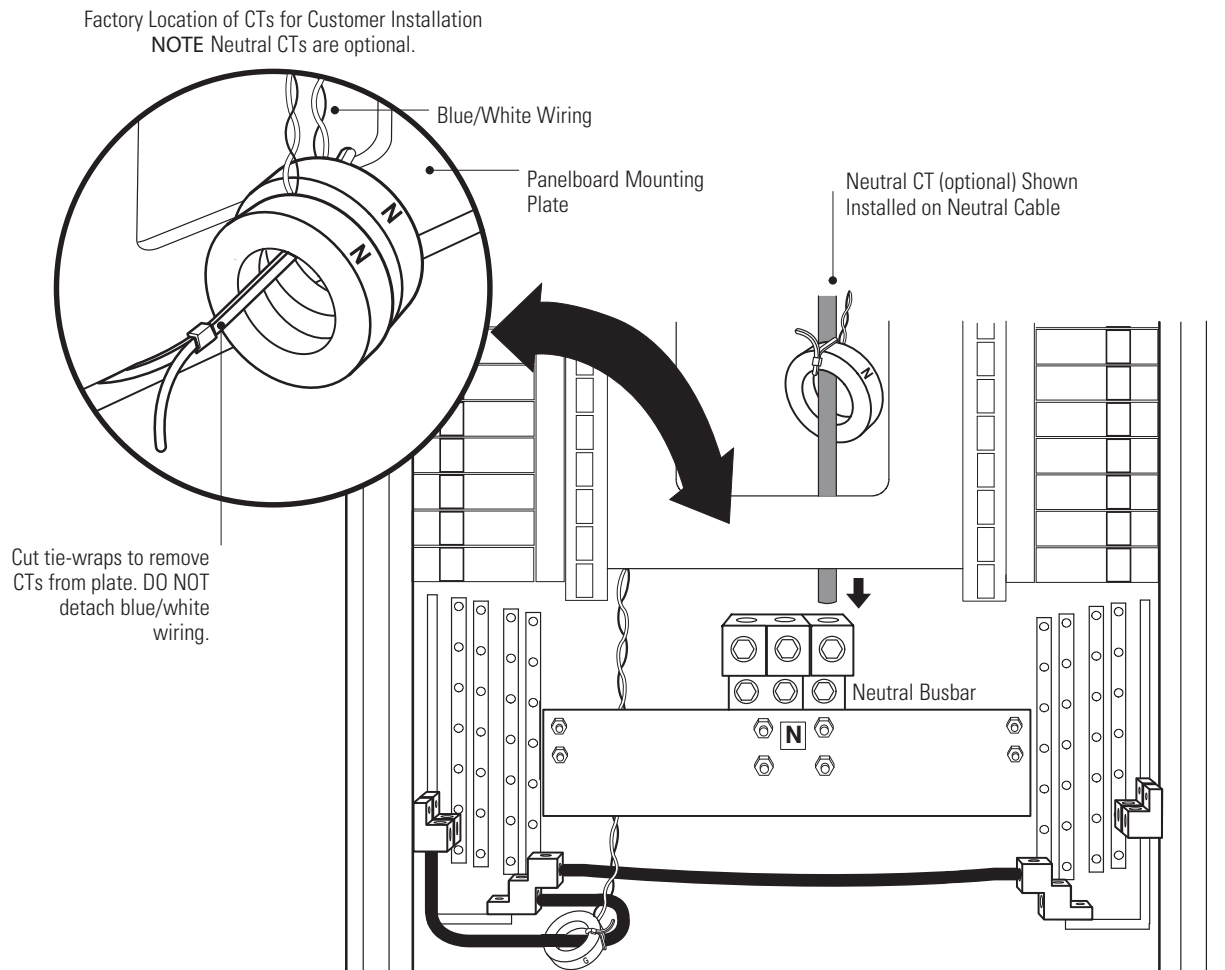

Figure 13. Installing the Neutral (Dual 800A Main Input Lug, Dual 400A Main Input Breaker, and Dual 600A Main Input Breaker)
9. **Dual 800A Main Input Lug, Dual 400A Main Input Breaker, and Dual 600A Main Input Breaker configurations.** Connect the neutral cables to the neutral busbars (see Figure 13, and Table 2, and Table 3 on page 12):
NOTE Figure 13 shows top entry wiring, optional neutral CTs for measured neutral current, and front access installation.